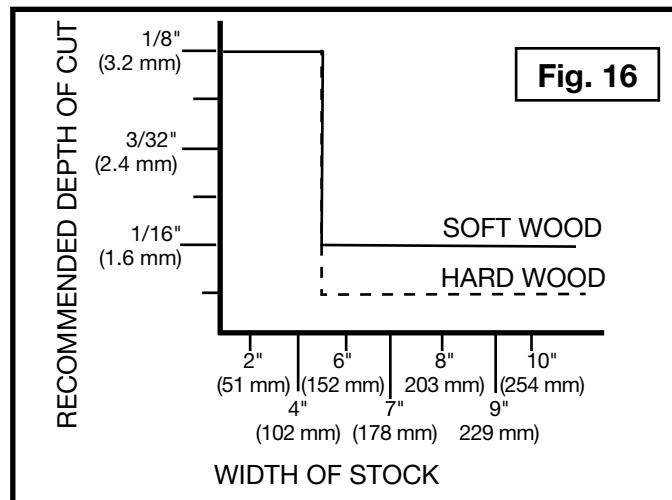

Fig. 16
You can make an 1/8" (3.2 mm) depth of cut in soft woods up to 6" (152mm) wide and in hard woods up to 4" (102 mm) wide. (See Fig. 16).
For 6" (152 mm) through 13" (330 mm) wide soft wood, use a maximum depth-of-cut of 1/16" (1.6 mm). For 6" (152 mm) through 13" (330 mm) wide hard wood, use a maximum depth-of-cut of 3/64" (1.2 mm) (Fig. 16).
**NOTE:** Always plane in the direction of the grain. Support the workpiece adequately at all times. Planing material less than 3/4" wide is not recommended. If you must plane narrow material, group several pieces together and plane them as one wide workpiece whenever possible. The maximum depth of cut your planer can take in one pass is 1/8" (on material less than 6" wide). Never attempt to modify your planer to take a deeper cut. Follow the recommended depth/width of cut guidelines shown in Fig. 16 for best results.